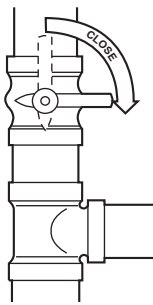

Fig. 7 - Close Valve
2. Close the external manual gas valve. See Fig. 7.